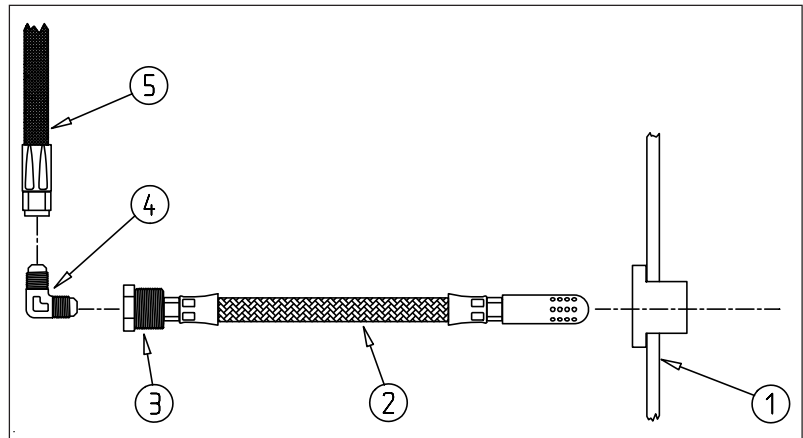

Figure 3 Flop Tube Removal/Installation
- 3 Disconnect the hose (5, Figure 3) and the elbow fitting (4).
- 4 Loosen the flop tube fitting (3) and take the flop tube assembly (2) out of the acro tank (1).